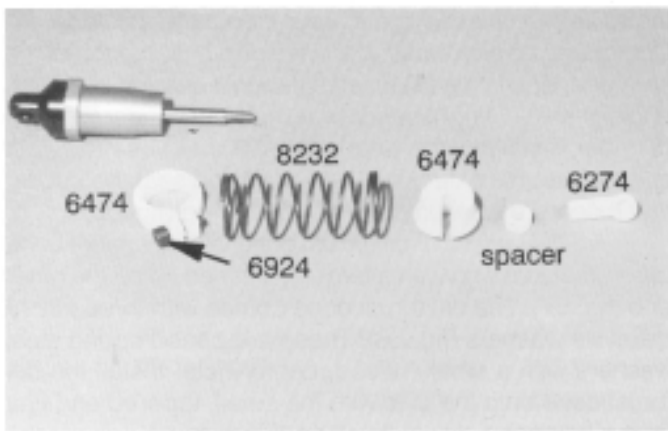
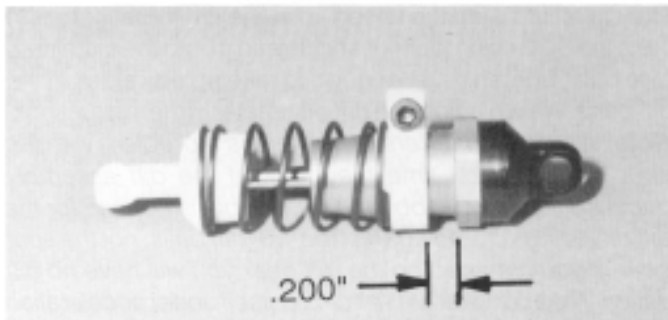

Fig. 56
Fig. 57
Figs. 56 & 57 In bag 4 you will find the #6474 spring clamp and cup parts and one #6924 4-40 x 3/8" SHCScrew. **(1)** The spring clamp has one hole that is slightly larger than the other. Install the 4-40 x 3/8" screw through the larger hole and then thread it into the smaller hole. **(2)** Now slide the spring clamp collar to the top of the shock body and tighten it just enough to keep the collar from moving (fig. 57). **(3)** Make sure the the side with the thin flange is away from the black aluminum shock cap.
(4) In the same bag you will find one #6274 plastic ball end cap, one nylon spacer, and one #8232 black shock spring. Slide the nylon spacer onto the shock shaft and then **(5)** thread the #6274 plastic ball end cap onto the shaft threads. **(6)** We now want to install the #8232 black shock spring and #6474 spring cup. First make sure the shaft is all the way out and that the nylon spacer is against the plastic ball end cap. **(7)** Slide the spring over the shock, **(8)** collapse it so that you can install the spring cup. When the spring cup is installed it should fit down over the nylon spacer and the end of the plastic ball end cap. **(9)** Collapse the shock a few times to make sure it is free and smooth (fig. 57).
(10) Now we need to adjust the tension setting on the spring and spring collar to get the correct ride height on the car. Adjust the collar so that there is a .200" gap between the collar and the hex portion of shock body. **(11)** Tighten down the spring clamp collar but not too tight—it just needs to keep the spring collar from moving.